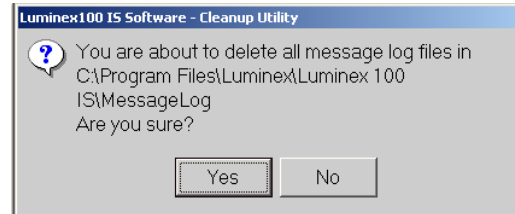

Figure 5-111 Cleanup Utility Confirmation Dialog Box
2. In the **Cleanup Utility** confirmation dialog box, click **Yes** to delete the Message Log. See Figure 5-111.